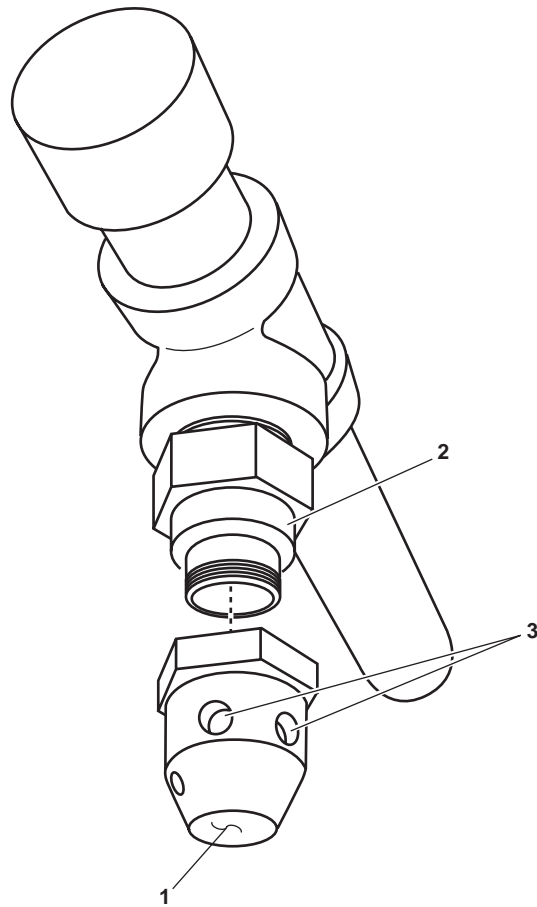

Figure 1. FM-200 Discharge Nozzle
1. Use a wrench to loosen the discharge nozzle (figure 1, item 1).
2. Remove the discharge nozzle (figure 1, item 1) from the pipe fitting (figure 1, item 2).
1. Install the discharge nozzle (figure 1, item 1) on the pipe fitting (figure 1, item 2).
2. Verify that the discharge holes (figure 1, item 3) are properly aligned.